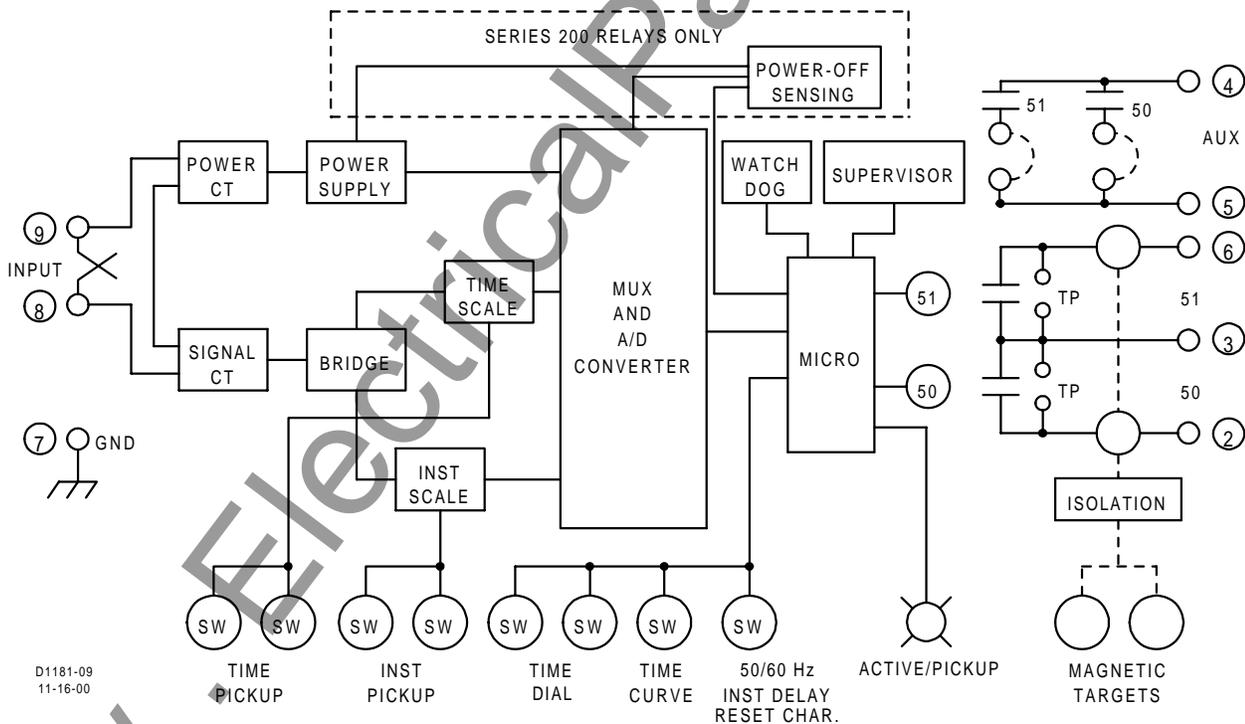

Figure 3-1. Functional Block Diagram
Single phase ac current from system current transformers (CT) is brought into the BE1-50/51B Overcurrent Relay at terminals eight and nine. Refer to Figure 3-1 to follow the functional description. The input current is applied to internal power and signal CTs.